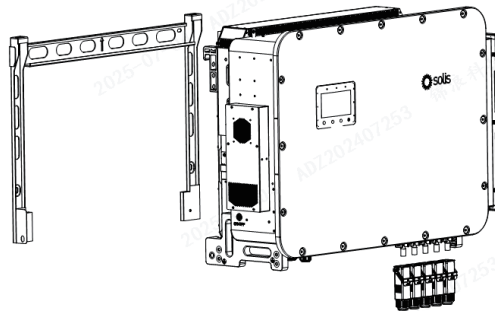

Figure 3.5 Wall mount bracket
2. Lift up the inverter (be careful to avoid body strain), and align the back bracket on the inverter with the convex section of the mounting bracket. Hang the inverter on the mounting bracket and make sure the inverter is secure (see Figure 3.5)